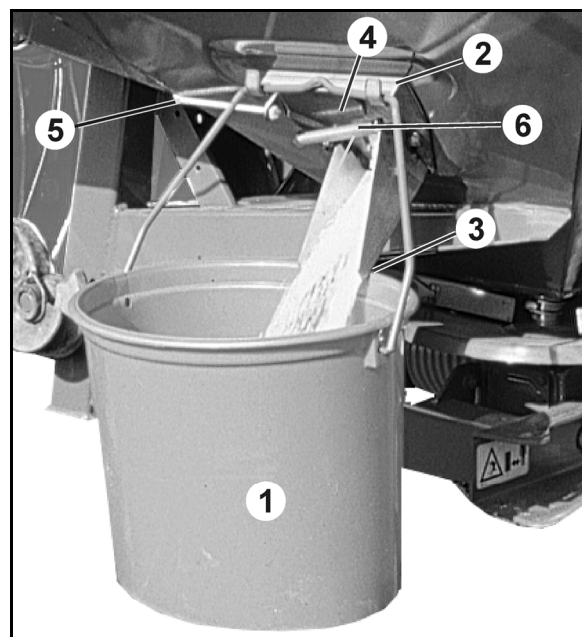

Fig. 64
1. Hook the collection bucket (Fig. 64/1) into the holder using the bracket (Fig. 64/2). Latch the collection bucket into the clamping device (Fig. 64/3).
2. Open the lateral slider (Fig. 64/4) of the outlet chute completely for approx. 5 sec. by pulling the rope (Fig. 64/5). This ensures uniform flow of fertiliser. Afterwards, pour the caught fertiliser back into the hopper of the spreader.
5. Drive the exact calibration distance from the beginning to the end point under field conditions, i.e. with the specified constant working speed. While doing so, at the exact beginning point of the calibration distance, open the lateral slider (Fig. 64/4) of the outlet chute all the way using the rope (Fig. 64/5) (pull it as far as it will go) and close it at the end point (when you let go of the rope, the springs (Fig. 64/6) pull the lateral slider into closed position).